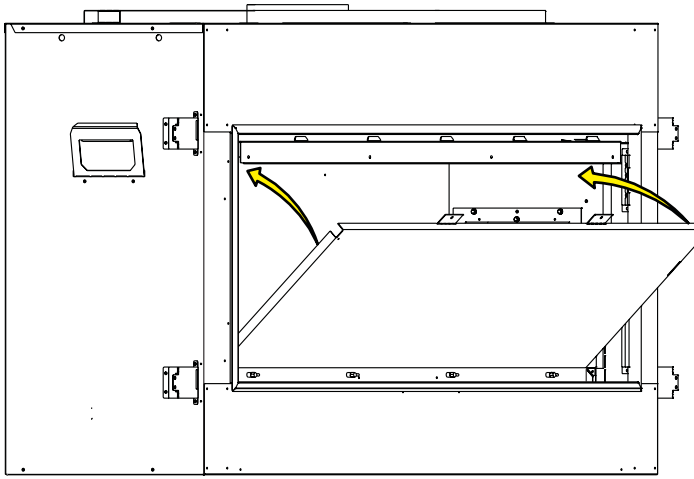
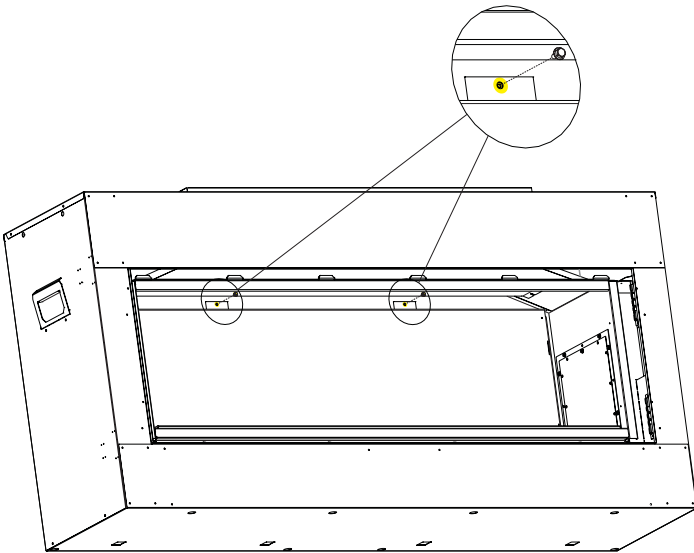

Figure 2
Figure 3
6. Remove the two screws that retain the rear liner panel and then remove the panel. **See Figure 3** for screw locations.
3. Once the tabs are inserted into the slots, rotate the Rear Panel upward against the back of the firebox. **See Figure 2.** Re-install the two previously removed screws (step 6 in Preparation section) through the top tabs of the Rear Panel to secure. **See Figure 3.**